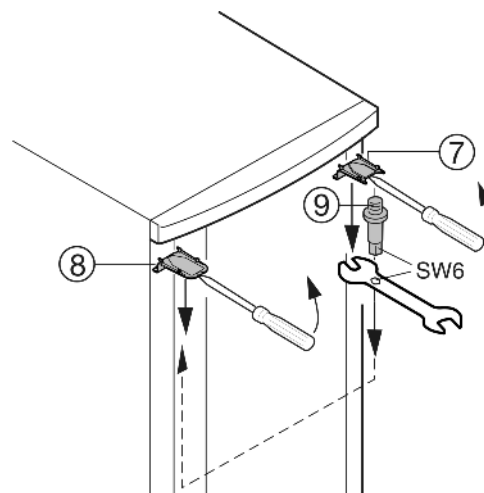

Fig. 5
- ▶ Disengage the top cover Fig. 5 (7) and cover Fig. 5 (8) in a forward direction using a screwdriver and remove them downwards at an angle.
- ▶ Unscrew the bearing pin Fig. 5 (9) and screw it into the opposite side **tightly (4 Nm)**. To do this, use the Allen screw on the spanner wrench provided.
- ▶ To re-fit the cover Fig. 5 (7) to the side where the bearing pin is located: insert it at the back and engage it at the front.
- ▶ To re-fit the cover Fig. 5 (8) at the opposite side: insert it at the back and engage it at the front.
- ▶ Attach the door to the bearing pin Fig. 5 (9) and close the door.